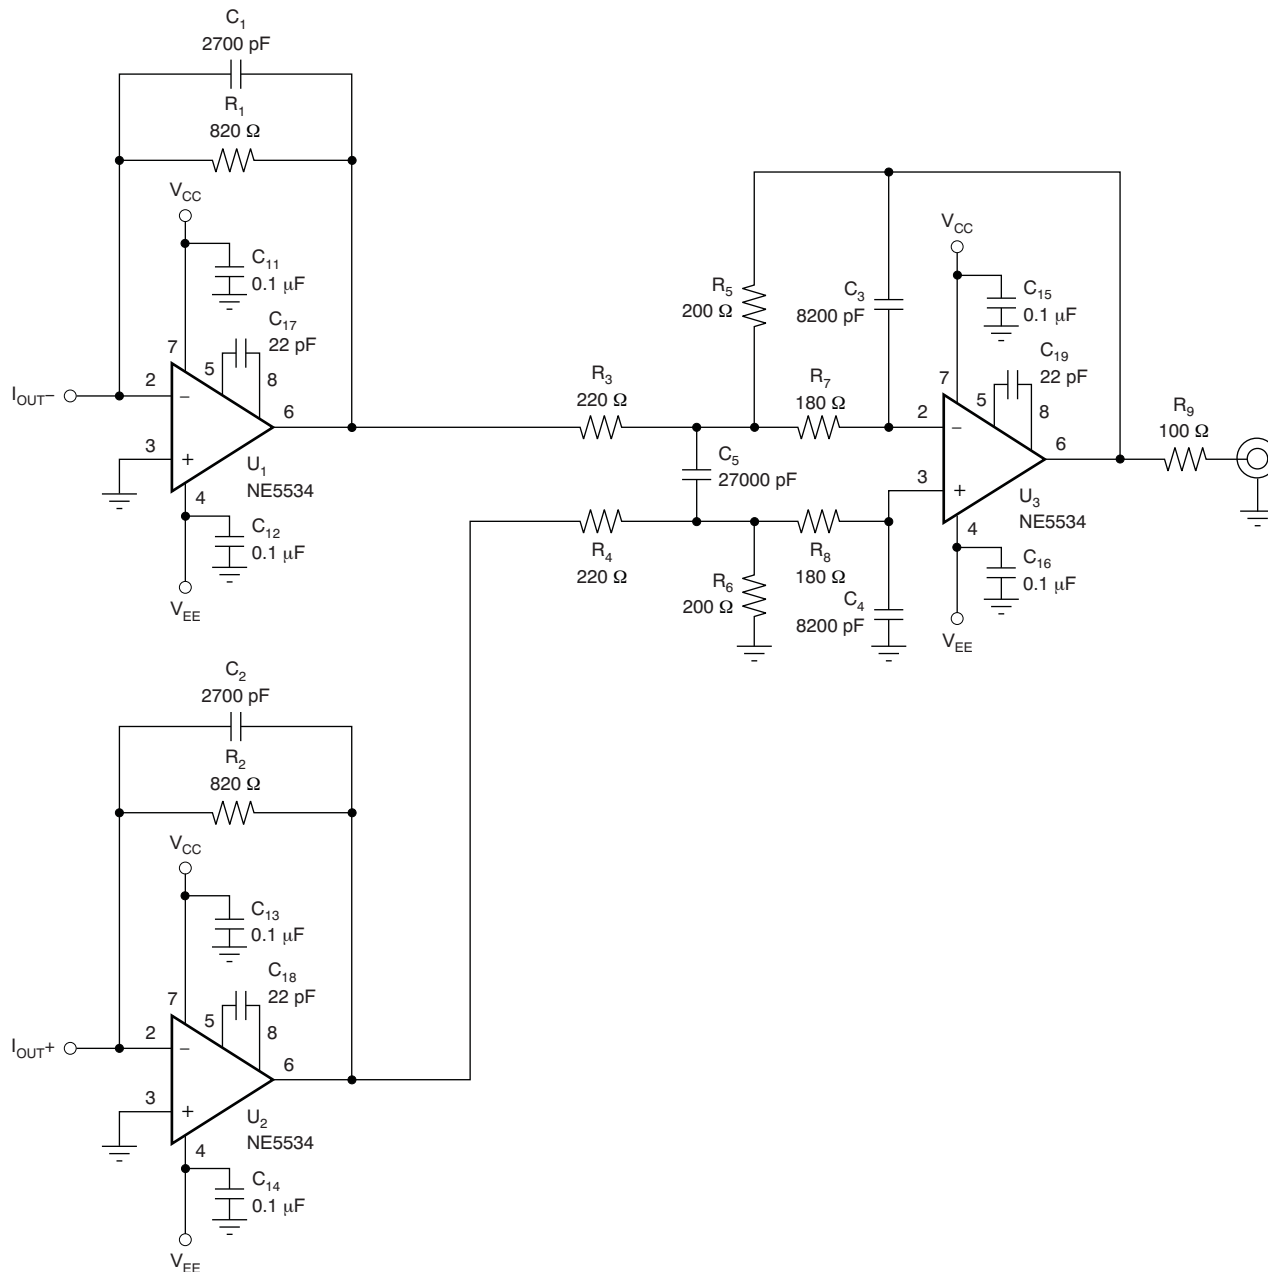

Figure 53. Measurement Circuit for PCM
In the third-order, low-pass filter (LPF) circuit of Figure 53, the output level of 2.1 V RMS and 123-dB signal-to-noise ratio is achieved.
(1) Circuit corresponds to Figure 53.